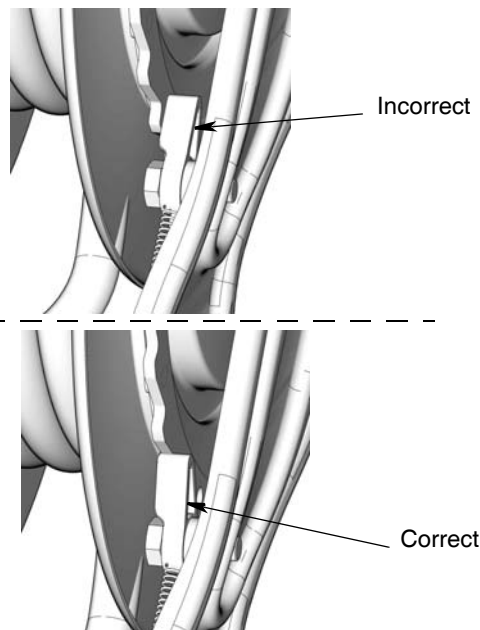

FIG. 13
12. Check pawl to make sure it is not wedged (FIG. 13).